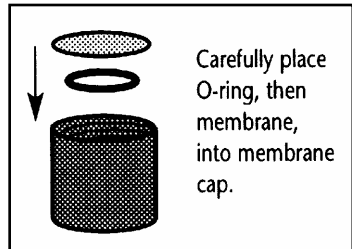

Figure 37: Parts of electrode showing O-ring, membrane & lock
9. Install a new membrane. Make sure the membrane covers the O-ring all around its circumference. See Figure 37.